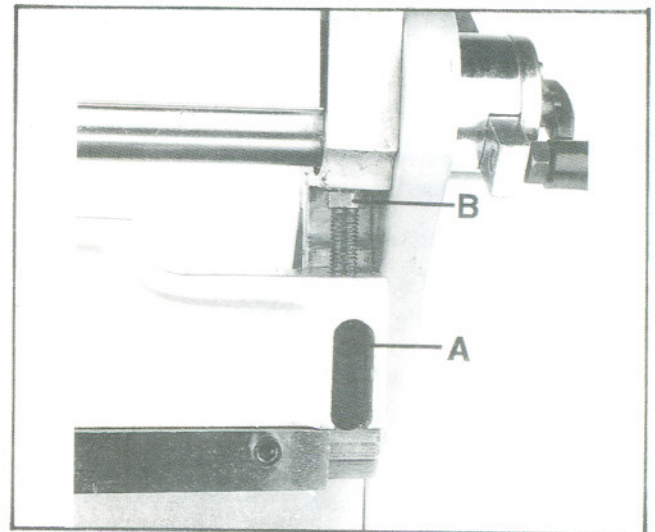

Fig. 5
1. Loosen locking screws slightly (A, Fig. 5).
2. Turn brake beam adjusting nuts (B, Fig. 5) located on either end of the beam until test bends reflect a 90° bend at both ends of the brake.
3. Tighten locking screws (A, Fig. 5).